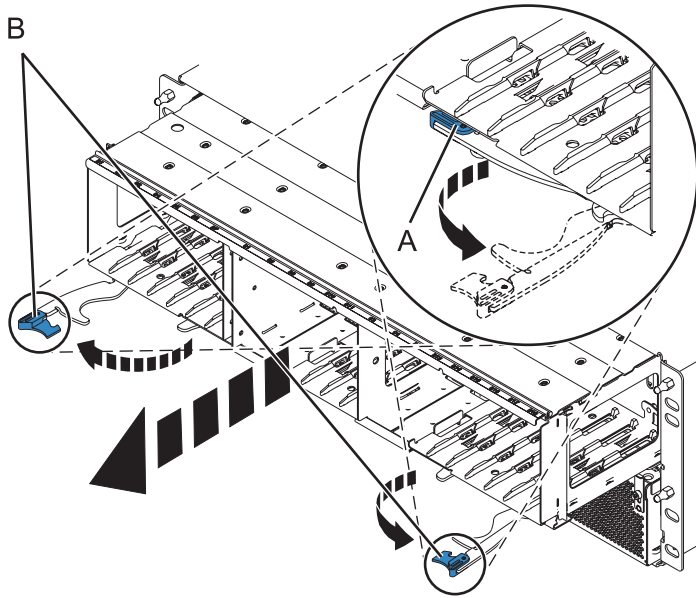

Figure 66. Removing the backplane from the enclosure
6. Remove the backplane as shown in Figure 66 on page 87.